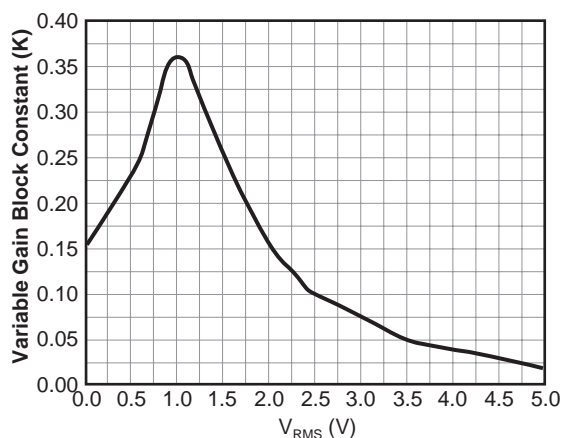

Figure 5. Gain Modulator Transfer Characteristic (K)
2. A voltage proportional to the long-term RMS AC line voltage, derived from the rectified line voltage after scaling and filtering. This signal is presented to the gain modulator at  $V_{RMS}$ . The output of the gain modulator is inversely proportional to  $V_{RMS}^2$  (except at unusually low values of  $V_{RMS}$ , where special gain contouring takes over to limit power dissipation of the circuit components under heavy brownout conditions). The relationship between  $V_{RMS}$  and gain is called K and is illustrated in Figure 5.